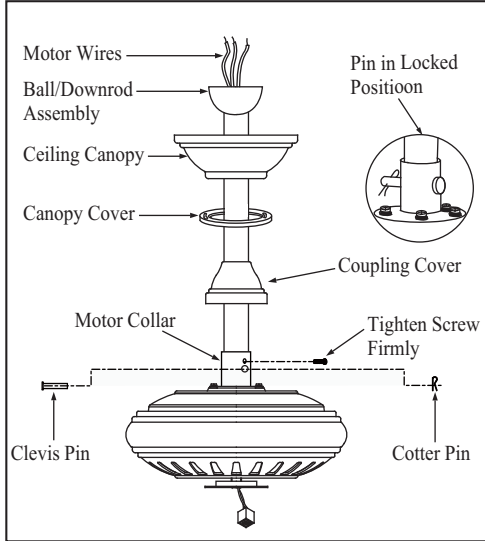

Figure 9
- Slip coupling cover, canopy cover and canopy cover onto downrod. Carefully reinstall hanger ball onto rod being sure that cross pin is in correct position, set screws are tighten and wires are not twisted. (Figure 9)